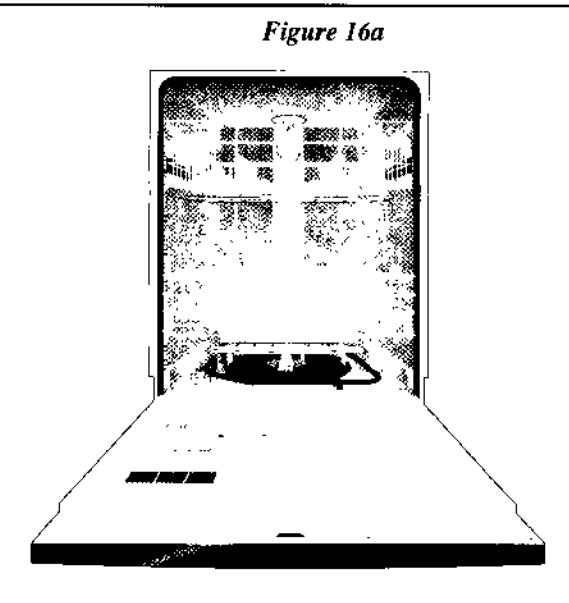

Figure 16a
- Unlatch and open door. Using a Phillips head screwdriver, remove two (2) screws from inner door. Save screws to reassemble. See Figure 16a.